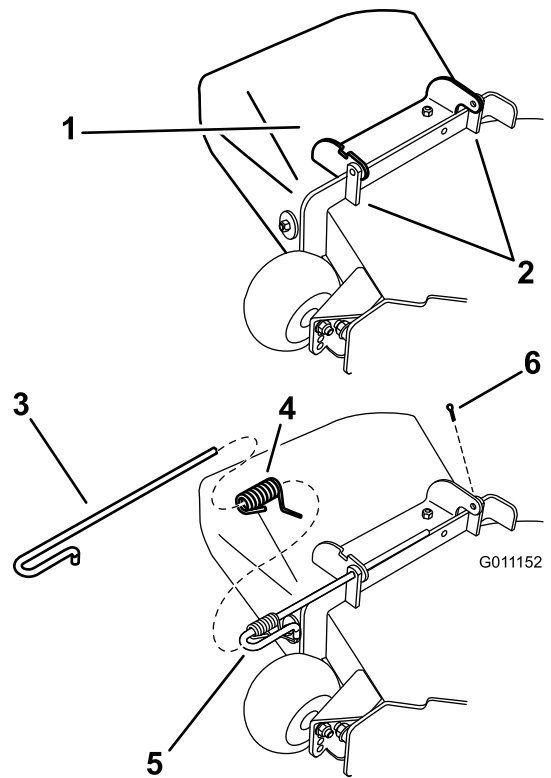

Figure 73
1. Remove the cotter pin from the rod (Figure 73).
2. Disengage the spring from the notch in the deflector bracket and slide the rod out of the welded deck brackets, spring, and discharge deflector (Figure 73). Remove the damaged or worn discharge deflector.
3. Position the new discharge deflector assembly with the bracket ends between the welded brackets on the deck as shown in Figure 73.